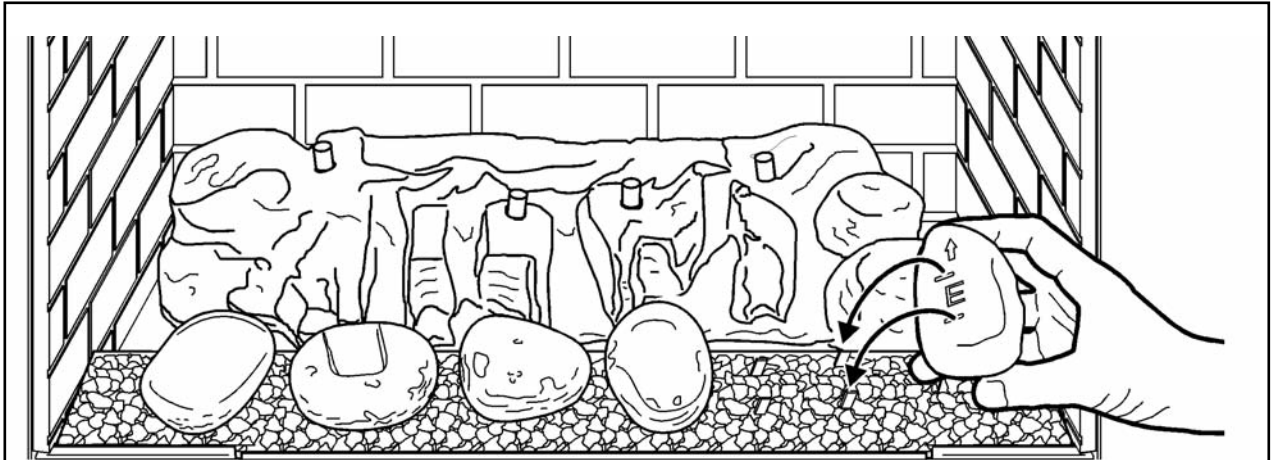

Figure 8. Fitting pebble 'E'
8. Hold pebble 'E' as in figure 8 so that the arrow points towards the rear of the fire. There are three sets of location tags remaining. Locate the slots in the base of pebble 'E' onto the two central location tags.